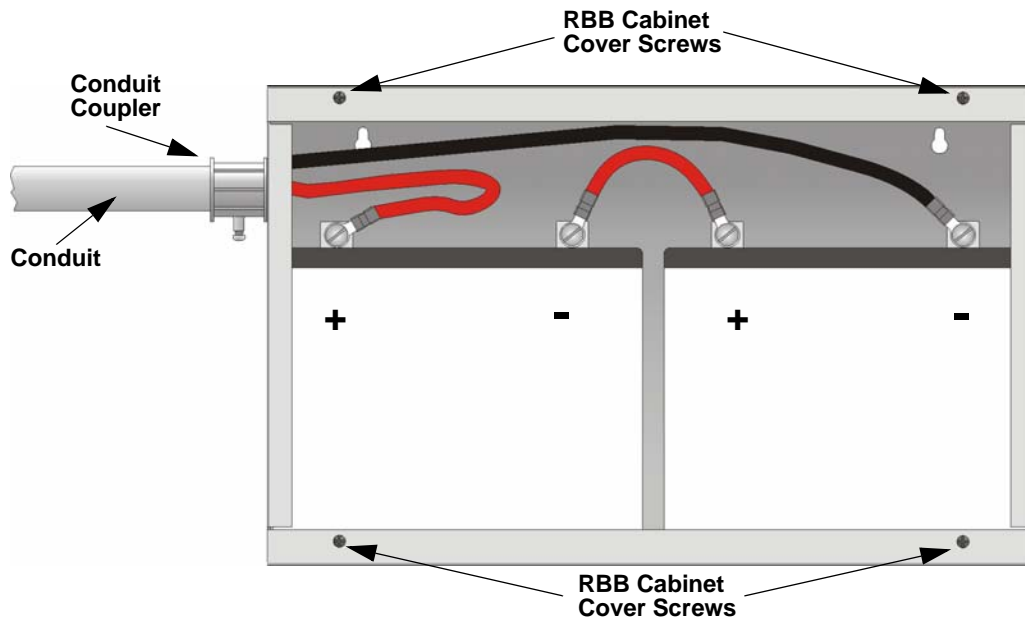

Figure 4.6 Battery Connections in the RBB Cabinet
3. Run extended battery cable from control panel cabinet through conduit to RBB cabinet. See Figure 4.6.
NOTE: Figure 4.6 is an example of how the wire connections can be routed. However, any other cabinet knock-outs (on either the main control panel or the RBB cabinet), that are not previously being used may be utilized to connect conduit between the two cabinets.
4. Connect battery leads to the backup battery terminals. See Figure 4.6. Observe the proper polarity to prevent damage to the batteries or the control panel.
5. Insert the RBB cover screws into the cover mounting holes (see Figure 4.6). Screw the cover screw $\frac{3}{4}$ of the way into the cover mounting hole.